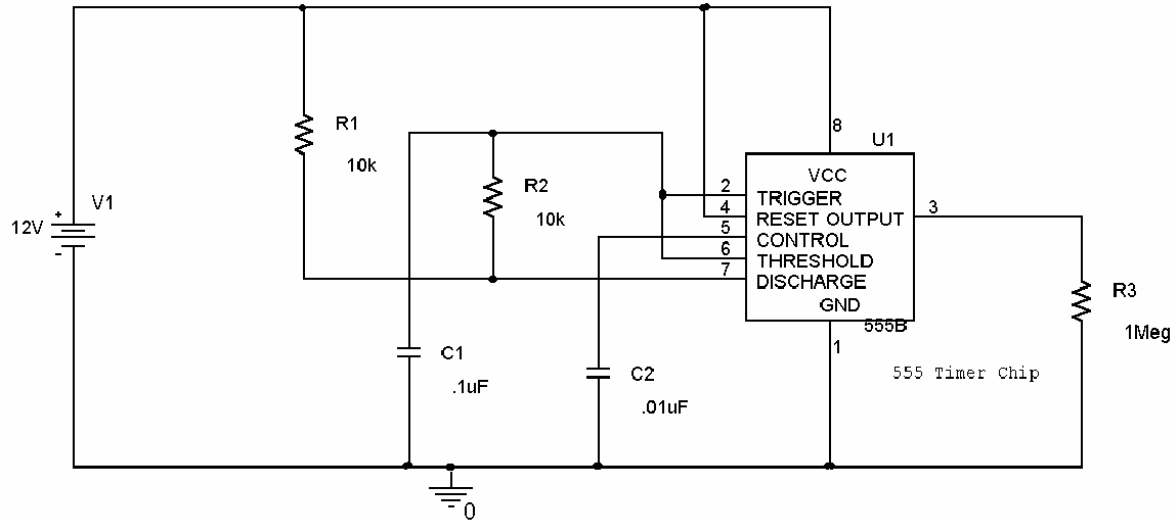

Figure D-7
- Wire the circuit in figure D-7 in PSpice